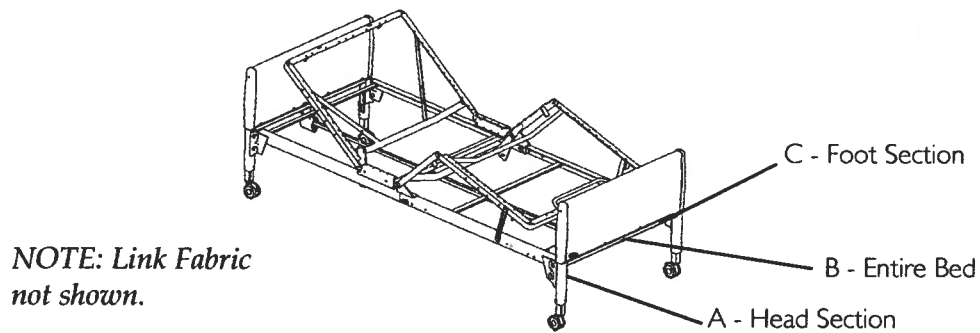

FIGURE 2.3 Using the Emergency Crank - Operating Full Electric Bed - Models 5410IVC and 5411IVC
NOTE: For this procedure, refer to FIGURE 2.3.
2. Locate the exposed shaft end according to the function you want to perform. Refer to FIGURE 2.3.